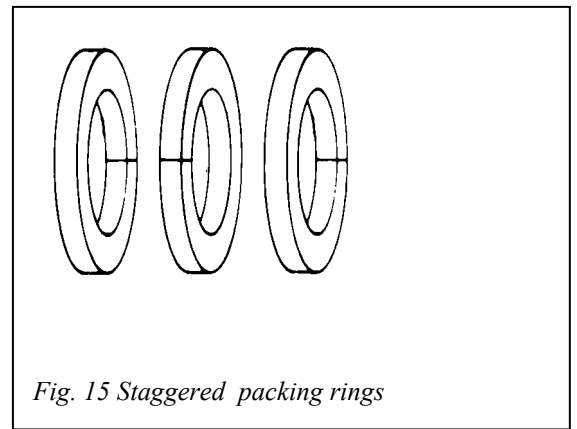

Fig. 15 Staggered packing rings
5. The gland must move easily into the stuffing box. Push in the rings using the gland and stagger the joints half a turn (Fig. 15). The gland should have a guiding depth of minimum 3-5 mm into the stuffing box. Ensure that the gland is at right angle in relation to the shaft.